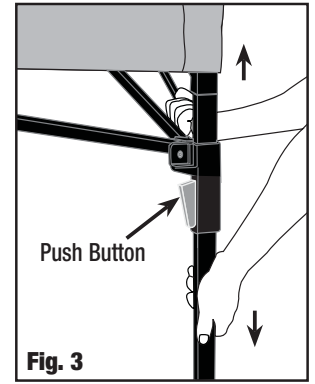

Fig. 3
- Pull up sliding bracket located on upper portion of leg until push button snaps into place (Fig. 3). This will ensure top of frame is fully extended.